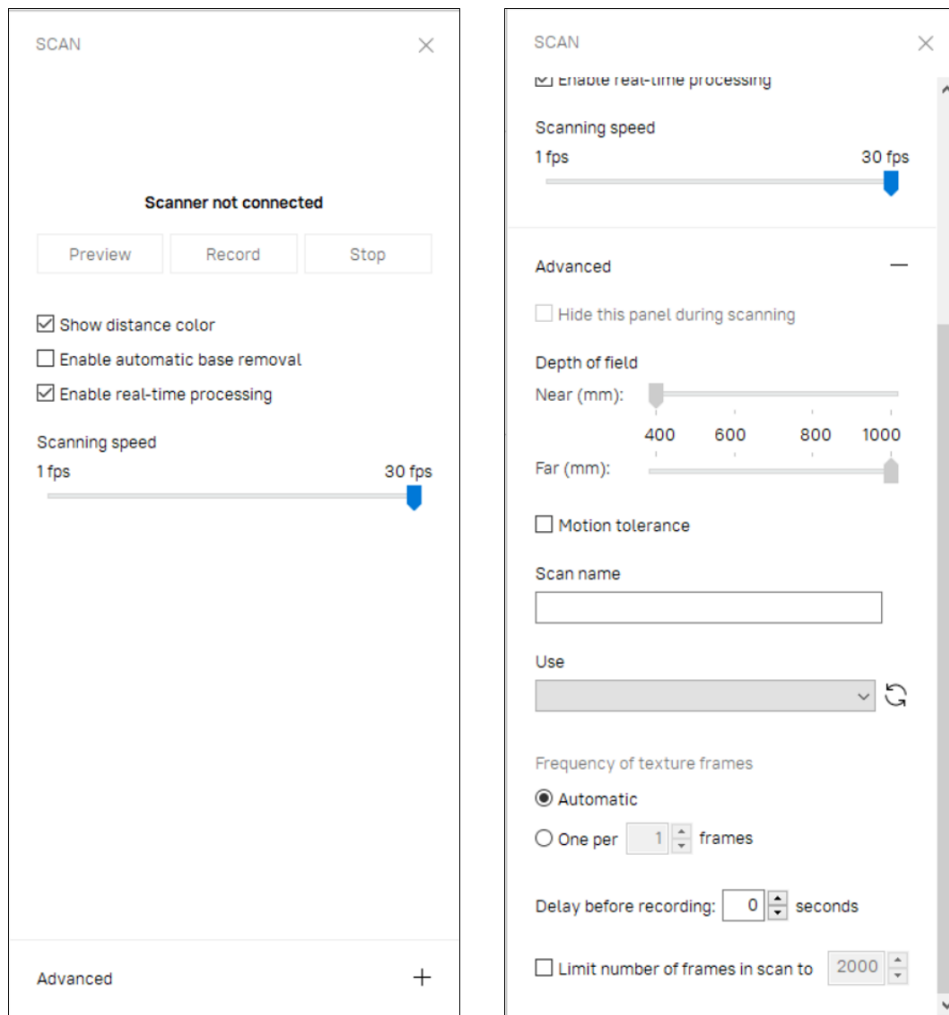

Figure 67: Scan panel: Advanced section hidden (on the left) and revealed (on the right).
1. Check the *One per ... frame* radio button (see Figure 67, right).